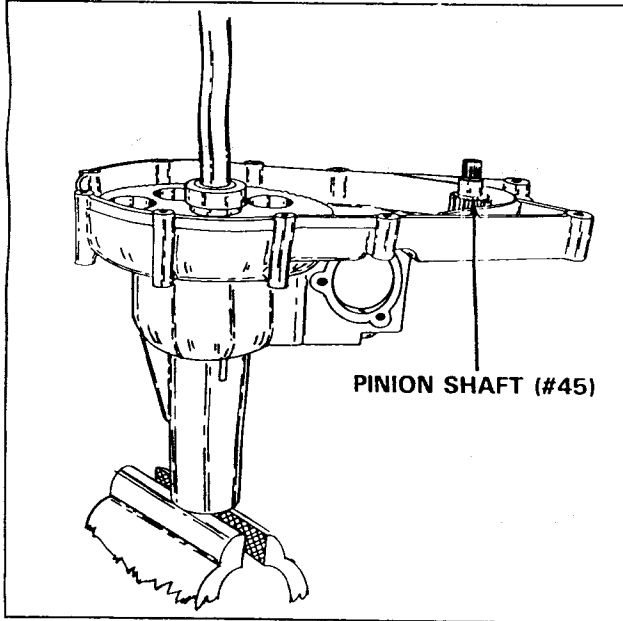

FIGURE 16
8.00 Slide one washer (#6) on axle shaft (#4) (Ref.: differential housing side) then slide differential/axle assembly into right hand housing (#2) (Housing on which brake is mounted). Clamp axle (#4) gently in vise as shown in figure 16.
8.01 Insert keyed end of pinion shaft (#45) into bearing. See figure 16.